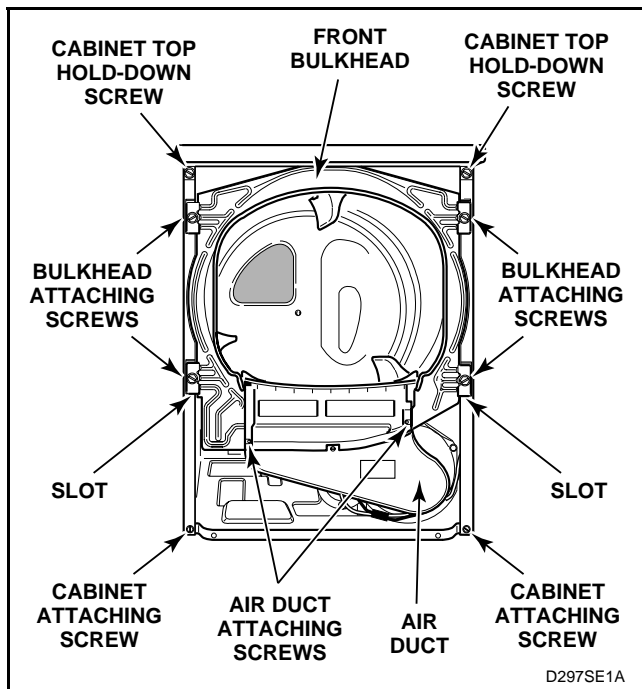

Figure 48
- Remove four screws holding bulkhead to front flange of cabinet and lift complete bulkhead assembly out of slots in cabinet. See *Figure 48*.
- Remove four screws holding bulkhead to front flange of cabinet. Then, lift complete bulkhead assembly out of slots in cabinet. See *Figure 48*.
- Remove four screws holding bulkhead to front flange of cabinet. Then lift complete bulkhead assembly out of slots in cabinet. See *Figure 48*.
- Remove two cabinet top hold-down screws. See *Figure 48*.
- e. Remove two cabinet top hold-down screws. See *Figure 48*.
- h. Remove four screws holding bulkhead to front flange of cabinet. Then, lift complete bulkhead assembly out of slots in cabinet. See *Figure 48*.